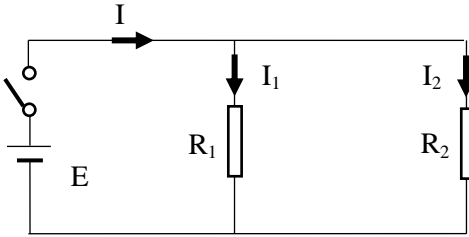

Figure 2.3. Circuit to Verify Kirchhoff's Current Law.
- 1- Assemble the circuit as shown in the figure 2.3.
- 2- Set the DC power supply to a 12 (V).